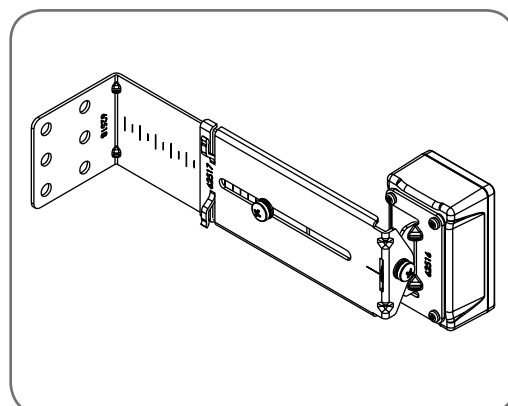

fig 40
- Attach the bracket (2) to the Safety Beam transmitter with four taptite screws (m3x5) and attach the other side to the adjustment bracket (3) with the pan head screw (6) . (Fig. 40)